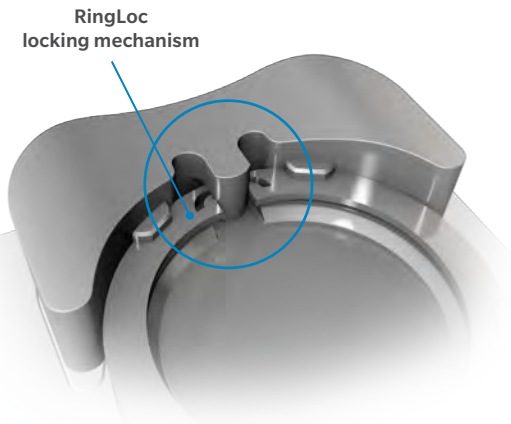

Figure 36
- Utilize the Humeral Bearing Assembly Tool to spread the RingLoc locking mechanism to the open position by fully seating the Bearing Assembly Tool on the Humeral Tray (Figure 36).